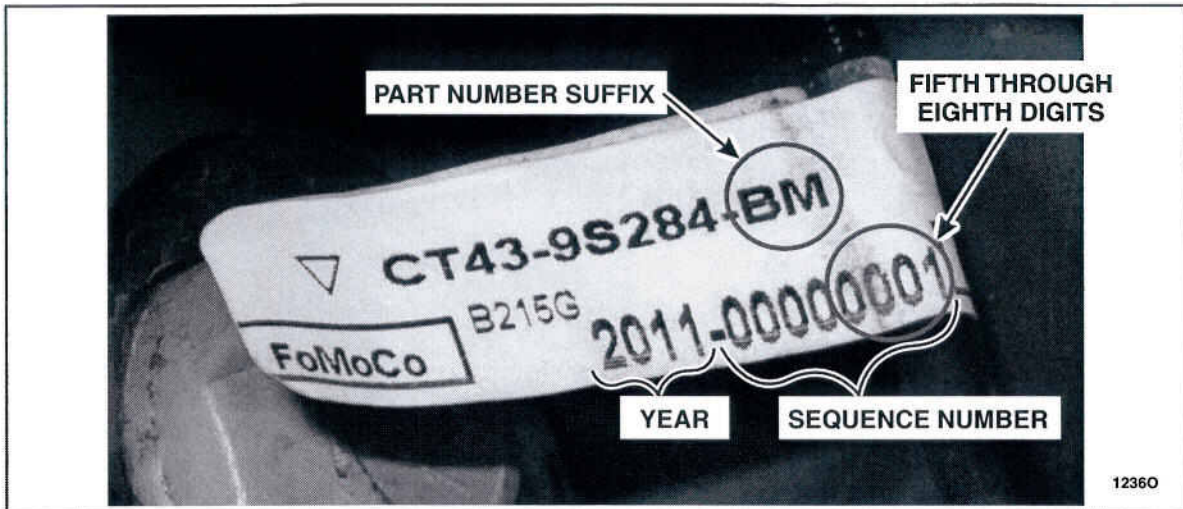

FIGURE 2
3. Compare the last two letters of the part number and the fifth through eighth digits of the sequence number with the chart on page 3 to determine if the fuel line needs to be replaced. See Figure 2.